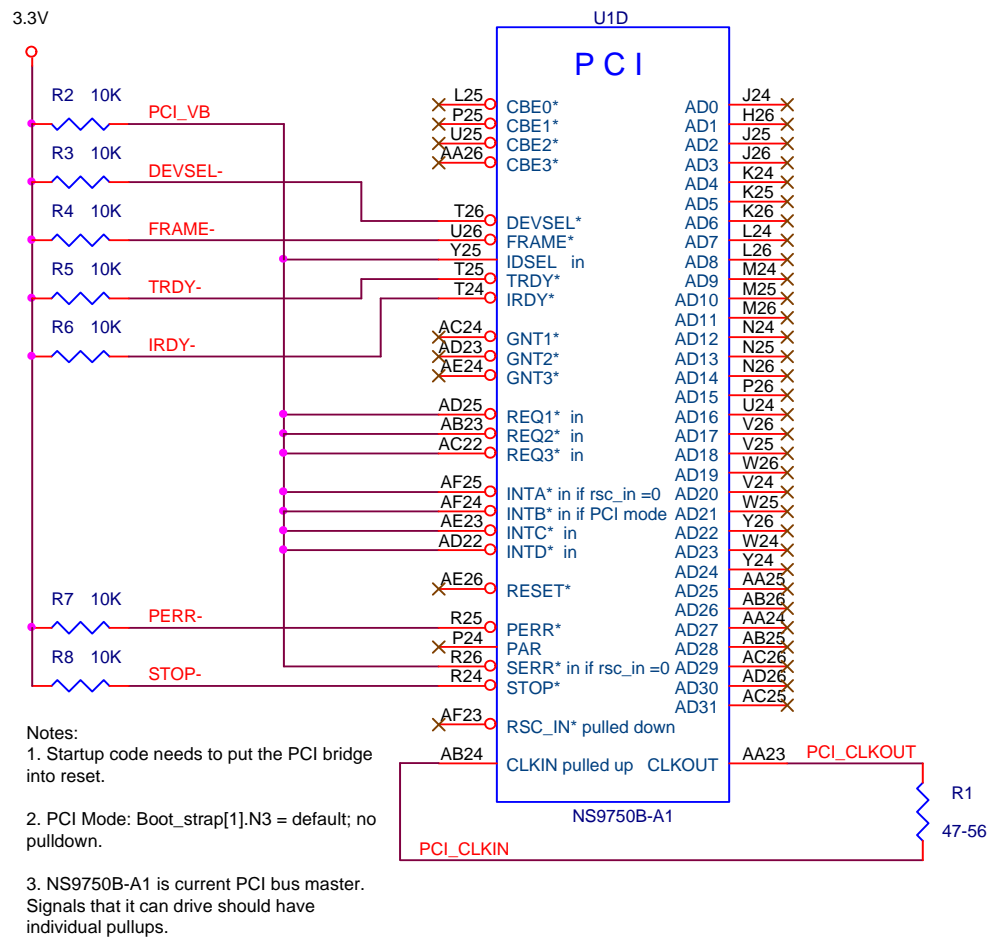

Figure 5: NS9750B-A1 unused PCI termination
Most of the CardBus signals are the same as the PCI signals. Other CardBus signals are unique and multiplexed with PCI signals for the NS9750B-A1. Table 9 shows these unique signals. Figure 5 illustrates how to terminate an unused PCI.
- 1 Add external pulldown resistor or drive with the NS9750B-A1 *only* if the PCI interface is not being used. Figure 5, "NS9750B-A1 unused PCI termination," shows which signals can be driven by the NS9750B-A1 and which signals require pullups or pulldowns.